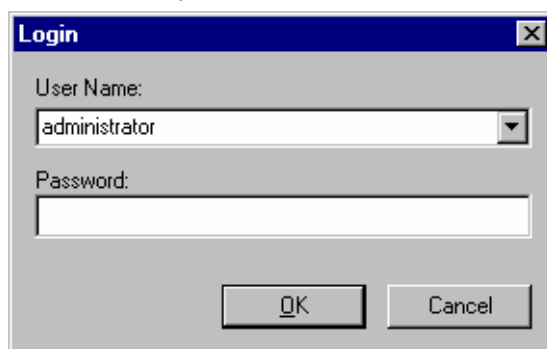

Figure 6-1: Login
1. Open TestStand Sequence Editor with **"Start" -> "Programs" -> "National Instruments TestStand" -> "Sequence Editor"** or by clicking the **"Sequence Editor"** icon on the Windows XP / Windows 7 desktop. You will now see the main screen of the Sequence Editor. Enter your user name and password (see Figure 6-1). The user name and password are stored in the user profiles of the TestStand software.